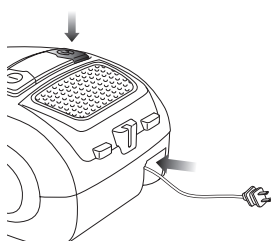

Fig. 3
- 2** To retract the power cord, press the cord rewind button. (**Fig. 3**) If the cord does not fully retract, pull it out a little and then press the rewind button again.